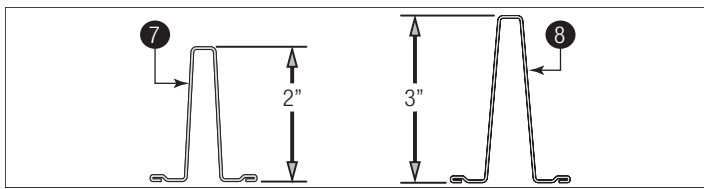

Figure 17
**IMPORTANT:** All struts ① are placed at the top of the sections and up against the bottom of hinges ②, for the Bottom Section ③, Lock (Second) Section ④, and Intermediate Section(s) ⑤ ⑥.
**IMPORTANT:** Measure the height of your strut(s) to determine if you have 2" Struts ⑦ and or 3" Struts ⑧. See Figure 17.